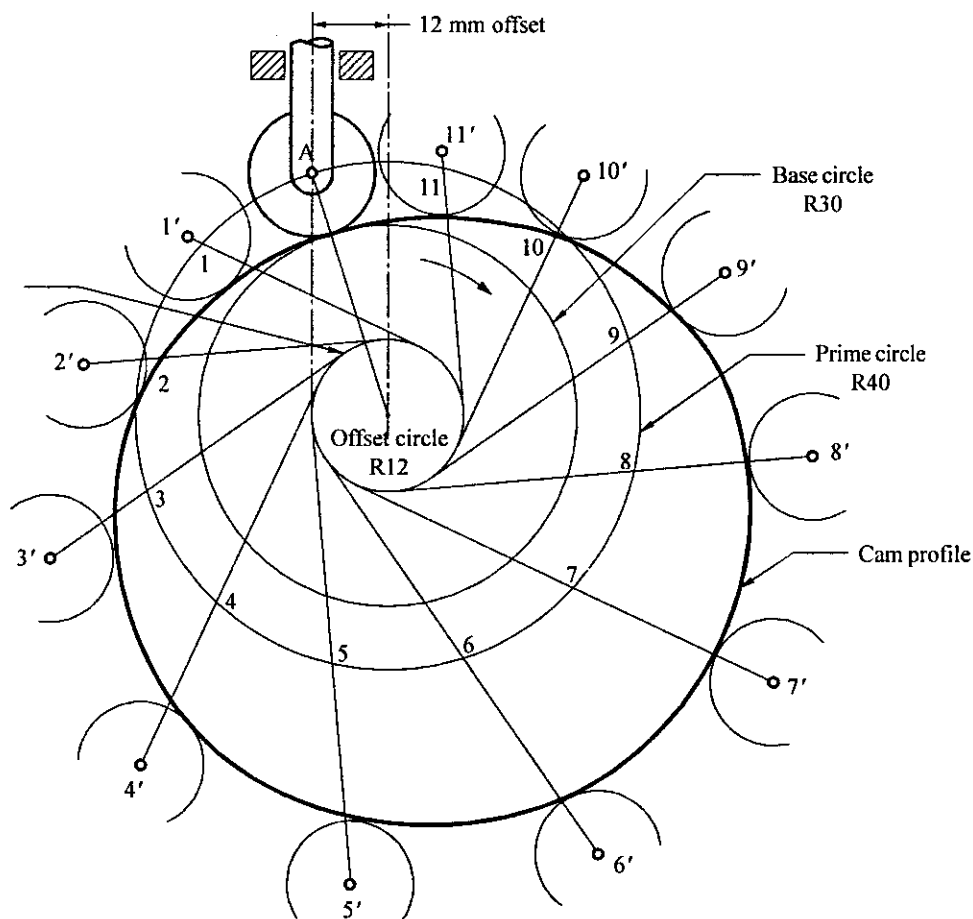

Fig. 8.18
**Construction:** (Refer fig. 8.18)